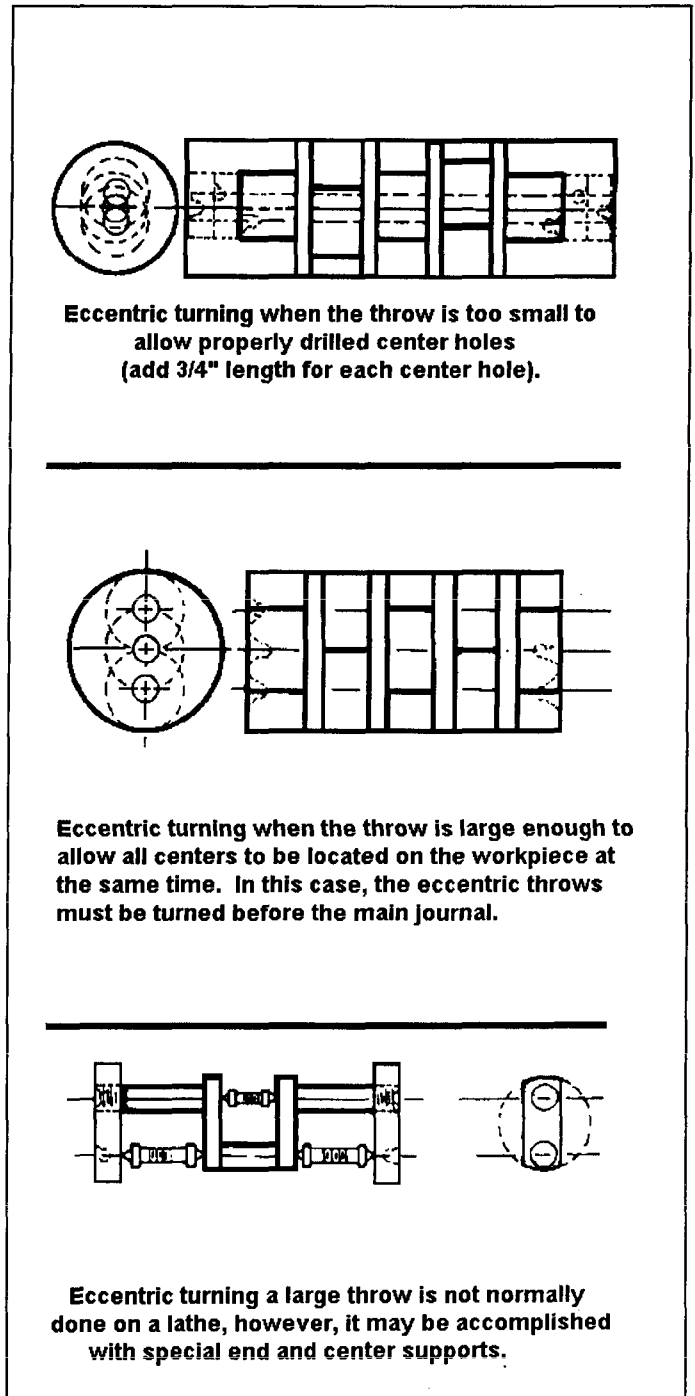

Figure 7-102. Eccentric turning.
- First determine the stock required by adding the throws plus  $1/8$  inch for machining (Figure 7-102).
the stock  $\frac{3}{4}$  inch oversized and just face both ends to clean up the saw cuts. Lay out and center-drill the normal center axis and turn down those diameters on the center axis with the work mounted between centers. Remove the work and remount into a chuck. Face both ends to the required length and center-drill the offset centers. Remount the work between these centers and machine the eccentric diameters to size. For eccentric work that has a limited distance between each center, this method is safer than trying to use a very shallow center-drilled hole to hold the work between centers (Figure 7-102).
If the lathe is to be used to turn a crank with a great throw, or a throw that is greater than normally machined on a lathe (Figure 7-102), special throw plates must be fabricated to hold the ends of the work while turning. The special throw plates will be used as support blocks to enable the offset center holes to be machined into the throw plates and allow for eccentric turning. eccentric turning, it is not recommended for normal lathe operations. Special crankshaft turning and grinding equipment is available for this type of machining.